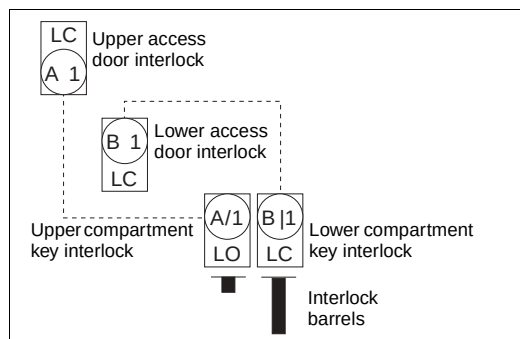

Figure 29: Interlock Status (Step 2.a.)
2. Lock closed (LC) the compartment key interlock to extend the interlock barrel and release the interlock key.
- a. If the device is racked into an upper circuit breaker compartment, lock closed (LC) the right circuit breaker compartment key interlock to extend the right interlock barrel (see Figure 29) and release the interlock key.